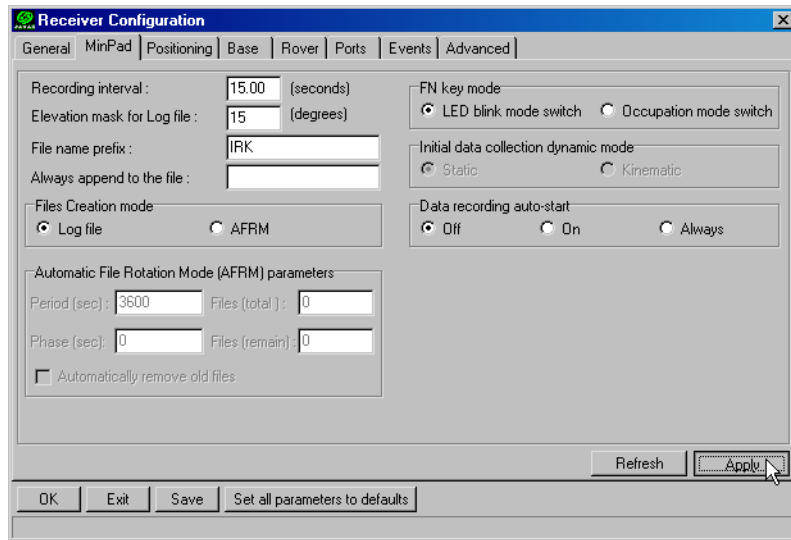

Figure 3-5. Configuration->Receiver->MinPad
2. Open PCView, click **Configuration->Receiver->MinPad** and specify the following parameters, then click **Apply** (Figure 3-5):